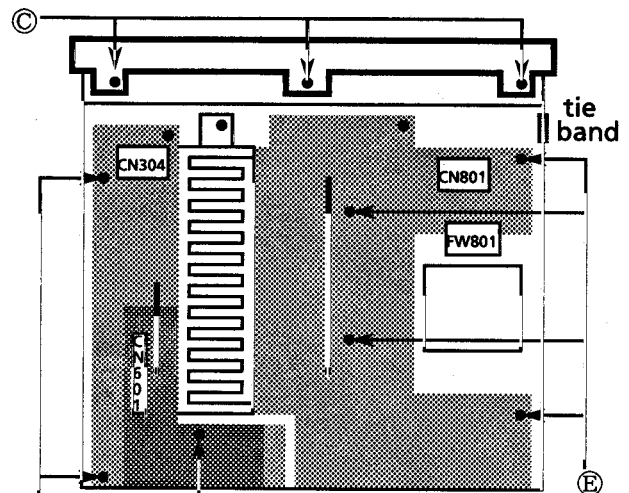

FIG.2 Top side
2. Remove 3 screws **K** on the bottom side and 3 screws **C** on the top side.(FIG.2,4)
2. Remove 5 screws **D** and **F**.(FIG.2,3)
6. Remove 6 screws **E**.(FIG.2)